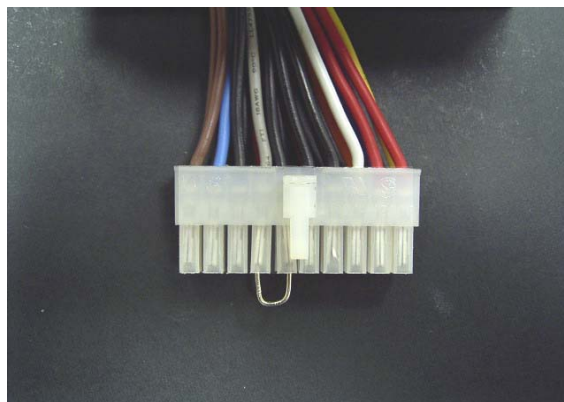

Figure 5-10
Step 2: If you are using ATX power, please short PS-ON signal and Ground on ATX power connector (As Figure 5-10), and turn on AC power switch of ATX power supply to let system boot up. If you are using AT power supply, you can simply turn on the power on AT power supply to boot up the system.